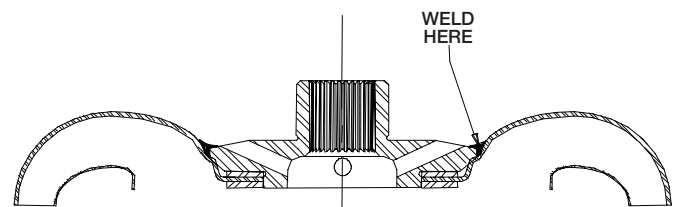

Figure 3
- Fixture the hub and weld (see Figure 3).